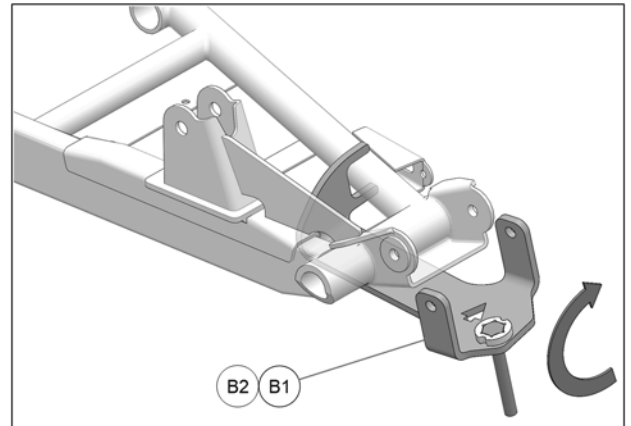

Fig. 8
7. Rotate bracket (B1-B2) horizontally. See Fig. 8